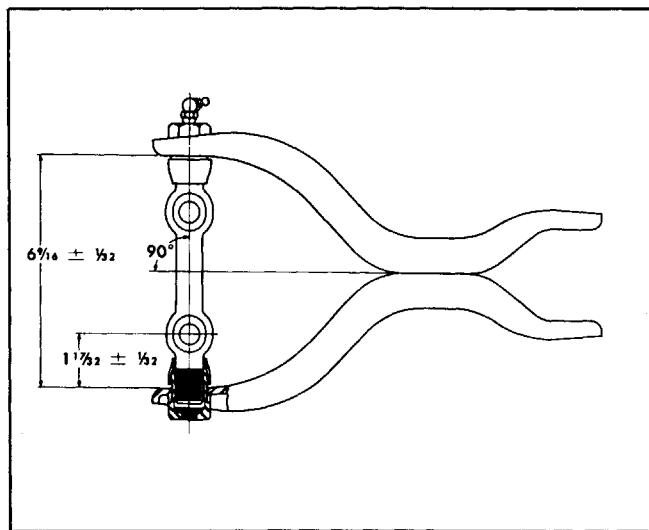

Fig. 3-20 Correct Installation of Shaft in Upper Control Arm
e. Check to see that distance between inner faces of shaft ends of control arm is correct (Fig. 3-20). Also check to see that pivot shaft is equalized in arm by measuring from bolt hole to arm at each end of shaft. Turn shaft in arm to centralize if distances from each bolt hole to arm are not equal. **NOTE:** Frictional drag of shaft in bushings should not exceed 12 lb. in.